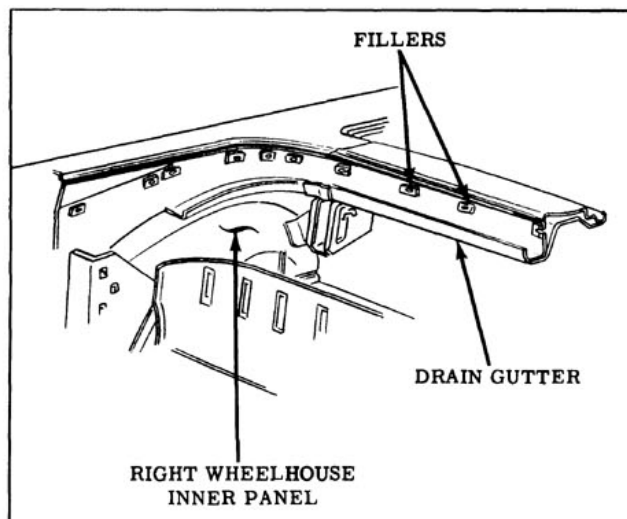

Fig. 16-137 Checking Trim Stick Fillers
12. Inspect rubber trim stick fillers cemented to body below pinchweld. Re-cement; if necessary. (Fig. 16-137)